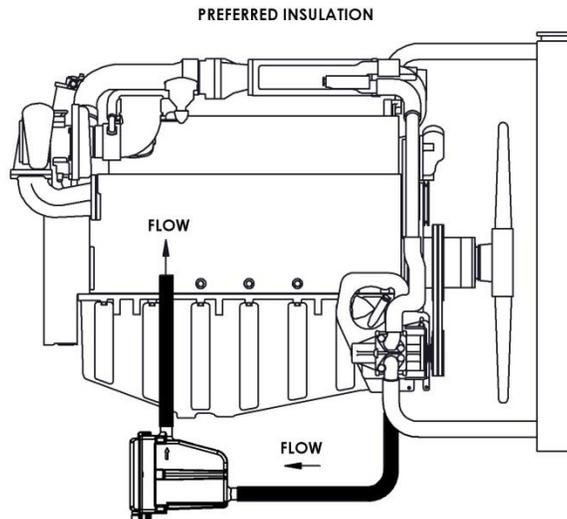

Figure 1
2. Mount the heater as shown in figure 1. with the power cord connection at the bottom.